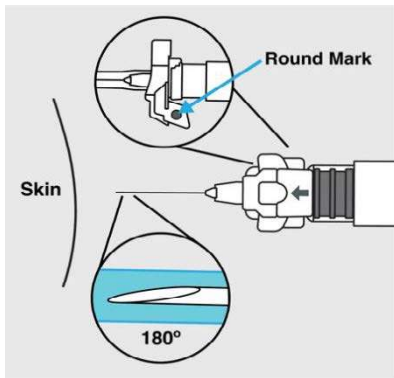

Figure 13: Pinch skin and insert needle
3. Pinch a 2.5cm section of skin between your fingers and insert needle at a 30° – 90° angle. Before inserting the needle, check the orientation of the safety device. The arrow on the safety device should be pointed towards the patient, with the round mark directed upward. (Figure 13)